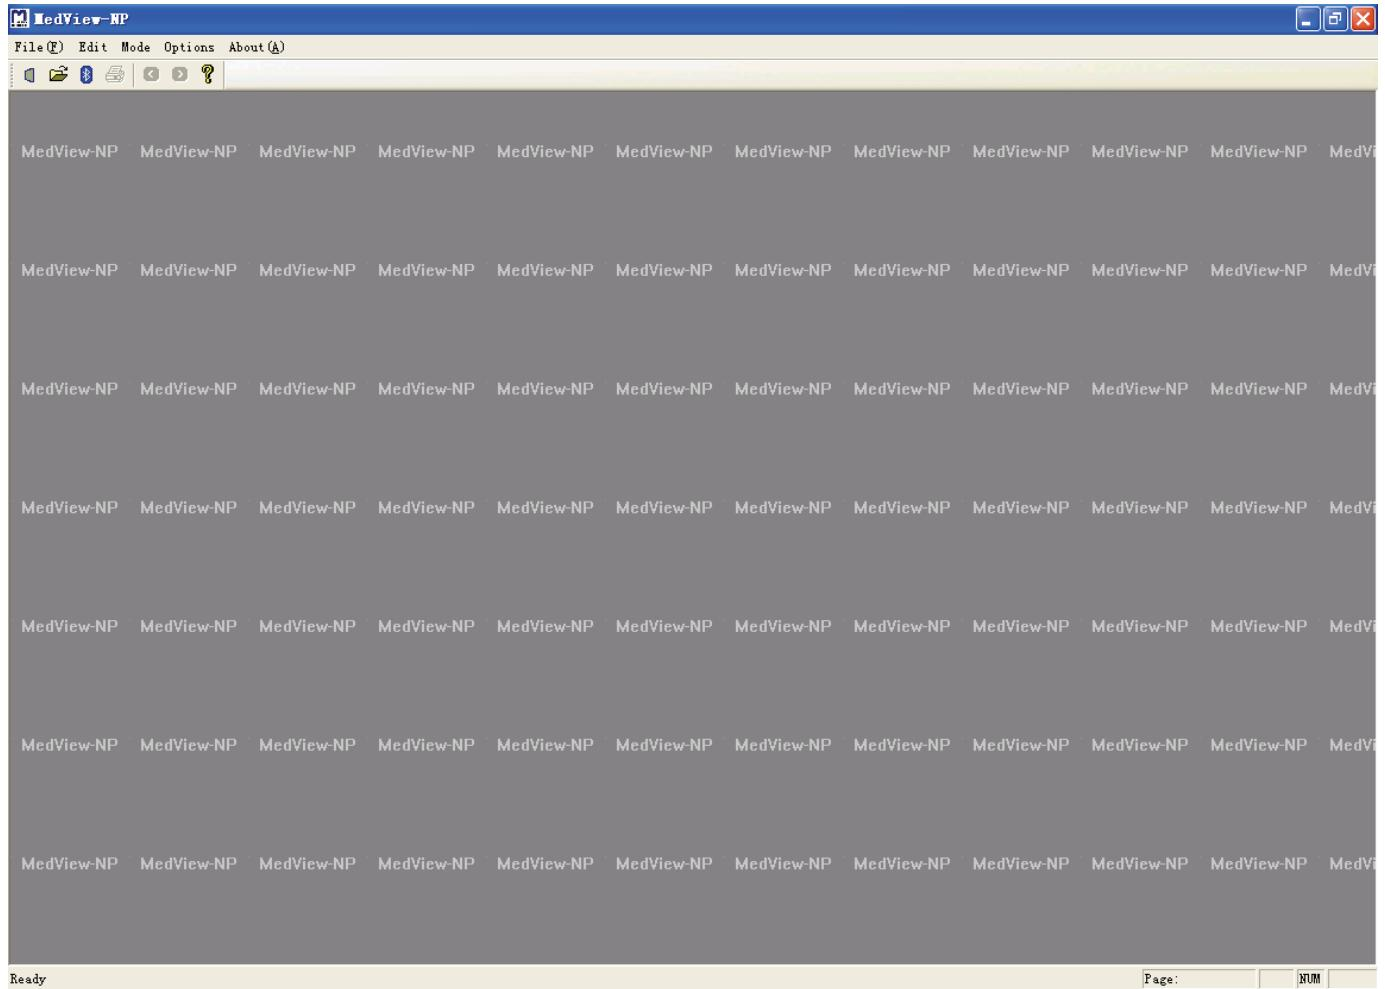

Figure 3-1
3.1.1 Double-click the icon “MedView-NP” on the desktop, the following screen will appear, as shown in Figure 3-1.
3.2.1 Click “File(F)” in the interface as shown in Figure 3-1, then the following figure will appear.
Click “Mode” icon in the interface as shown in Figure 3-1, then click “Trend” item in the drop-down menu as shown in Figure 5-1.